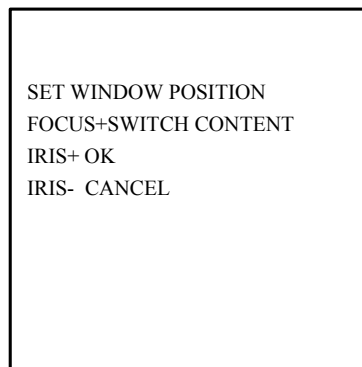

Figure 3.3.21
1. Use the joystick or direction buttons to position the cursor beside WINDOW SETTINGS and then press IRIS+ to enter the window blank settings menu. Refer to Figure 3.3.21. A purple smear window will appear on the screen (the color of window varies depending on camera models).